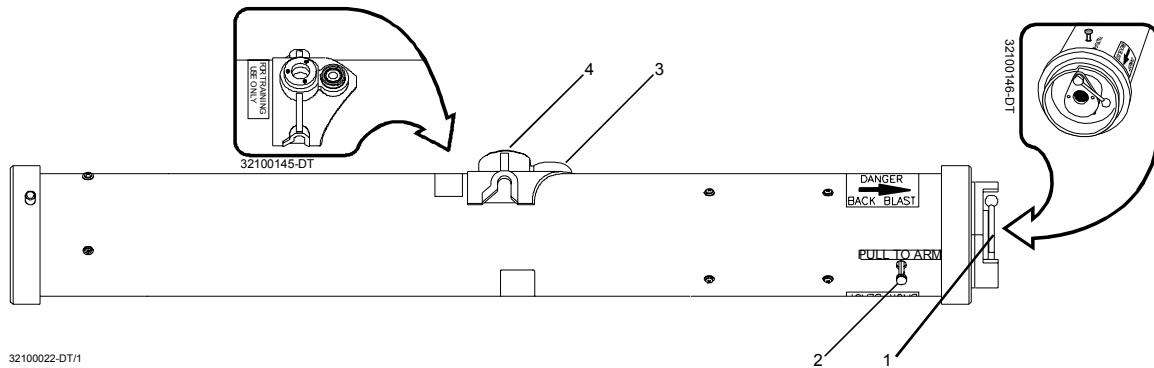

Figure 2-16. TOW Simulator Tube.
2.3.2.5 TOW Simulator Tube. (See Figure 2-16.)